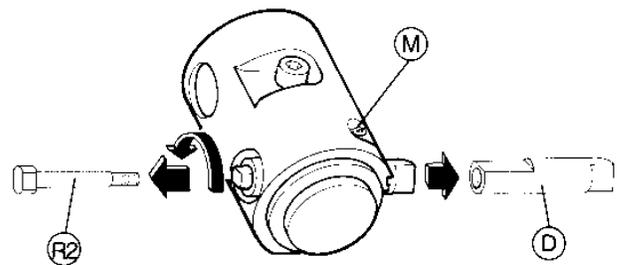

Fig.13
- 2) Completely unscrew screw (R2), loosen the dowel (M) and remove the tracer point (D) as shown in Fig. 13.
- 3) Replace the tracer point, carrying out the operation described in (2) in reverse order.
- 4) Replace knob (R) and tighten well. Re-set the machine following the instructions given before.